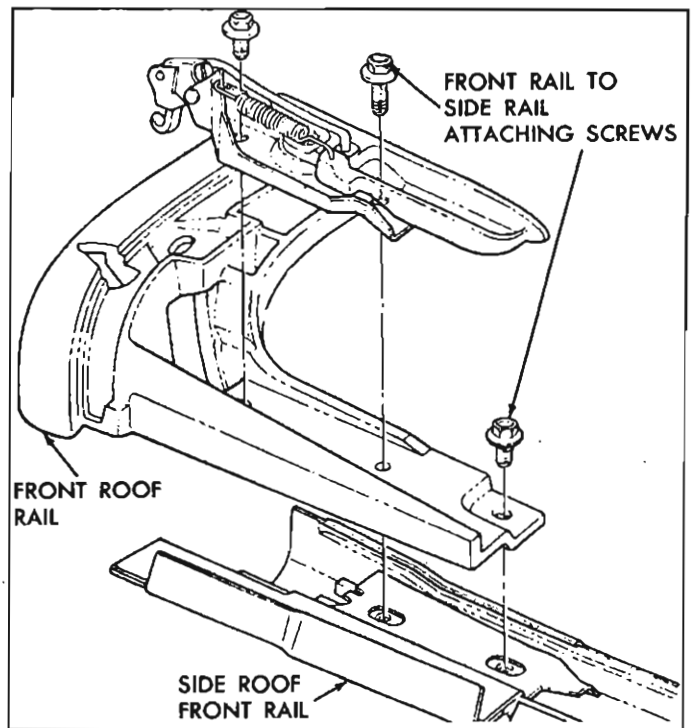

Fig. 36—Front Roof Rail Adjustment
2. Loosen side roof front rail attaching bolts and adjust front roof rail fore or aft as required (fig. 36). Repeat on opposite side if necessary.